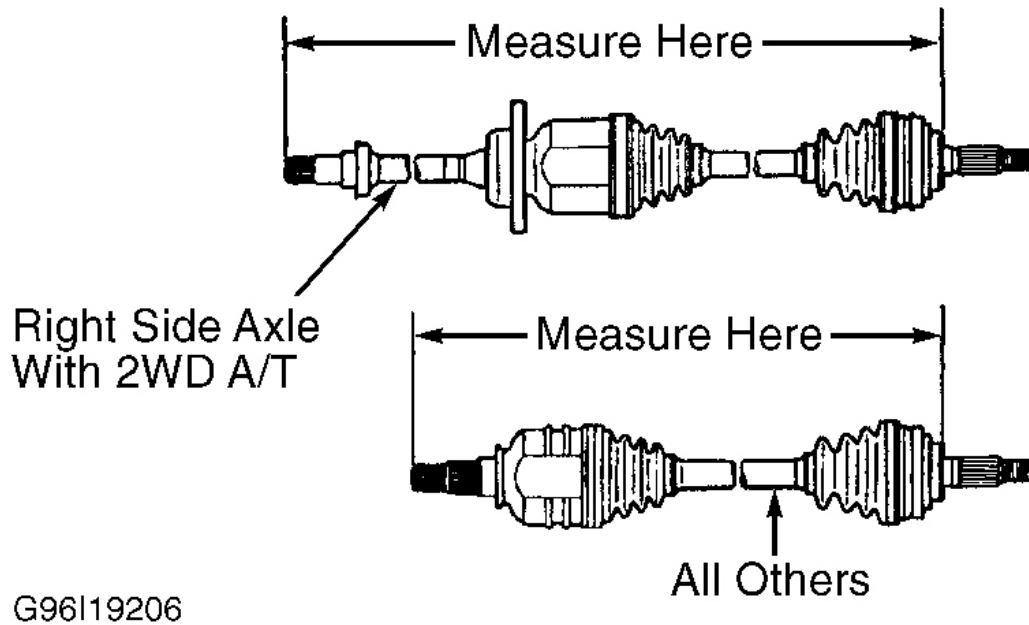

Fig. 7: Measuring Front Axle Shaft Length
12. Tighten boot clamps. Ensure boots are seated in grooves on axle shaft. Adjust axle shaft to standard axle shaft length. See **AXLE SHAFT LENGTH SPECIFICATIONS**. See **Fig. 7**.
(1) Measure axle shaft length between inner joint flange and outer joint flange. See Fig. 7 .